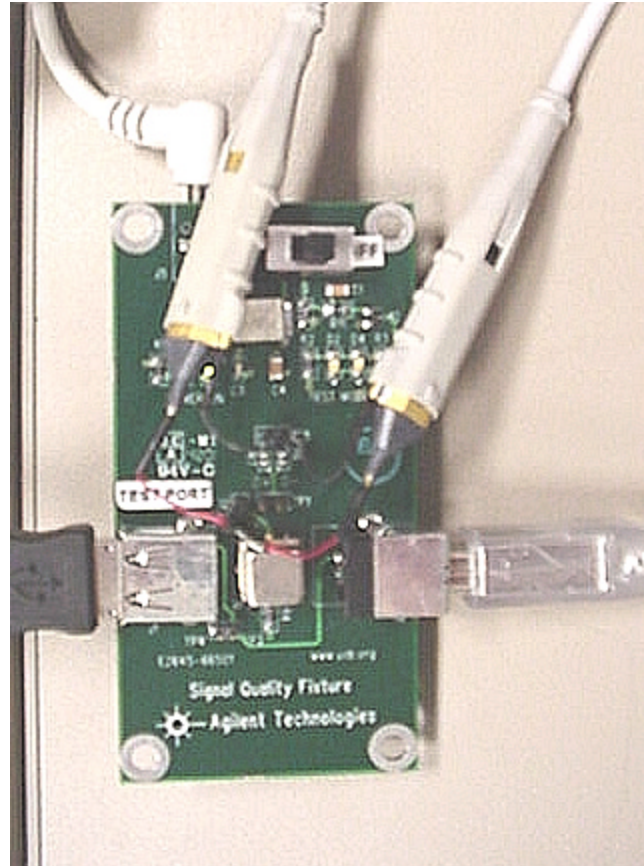

Figure 39. Probe Connection for CHIRP Testing
2. Connect the scope probes to the fixture, as shown in Figure 39 ...
2. Connect the scope probes, as shown in Figure 39